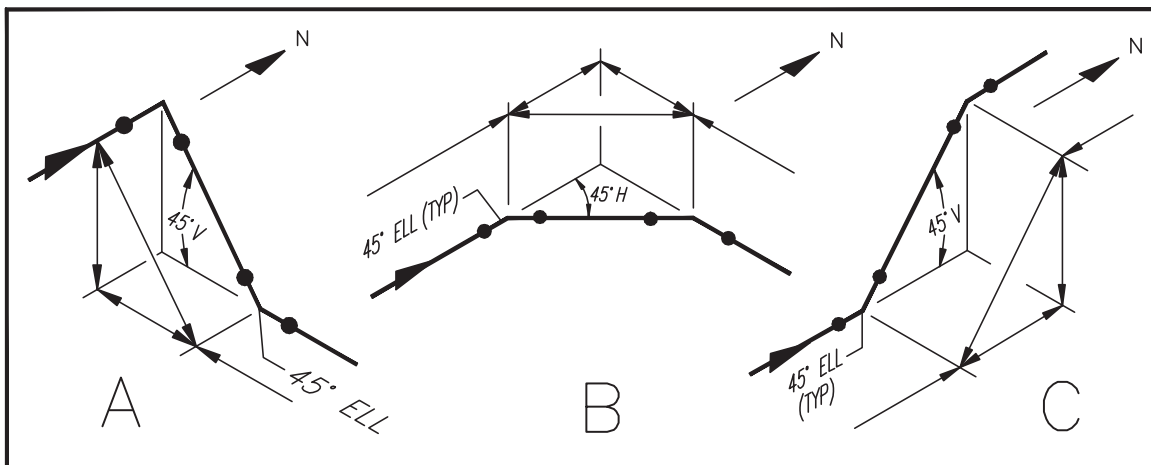

FIGURE 13.16 Isometric offsets.
Isometric offsets are formed when a pipe turns at any angle other than 90°. Angular offsets can be created by rolling a 90° elbow at any angle or replacing 90° elbows with 45° elbows. The result would be pipes that no longer travel north, south, east, west, up, or down. Instead lines would run northwest, northeast, southeast, or southwest. They could also slant upward or downward. Three examples of isometric offsets are shown in Figure 13.16. Dimension lines and callouts are included as a reference. To establish proper visual orientation, the indication of horizontal (H) or vertical (V) angles are included on all isometric offsets. Forty-five-degree elbows must always be labeled on an iso for material take-off purposes.
Figure 13.16 represents only three of the many offsets which can be created using 90° and 45° elbows. Example A of Figure 13.16 begins with a line traveling north. A 90° elbow is rolled downward and toward the east at a 45° angle, then another 45° elbow is required to return the angular offset back into a due easterly direction. This